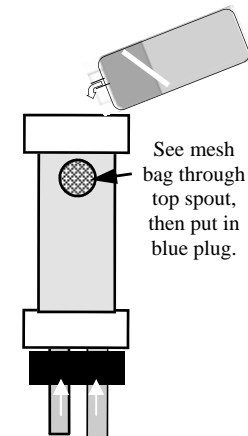

Figure 8
6. Position foam stopper around any wires coming out of bottom end and slide foam stopper into the bottom side of the splice closure. (see figure 8)
9. Remove cap from tube and, squeeze, or pour the encapsulant into the top open end of the closure. (See figure 8)